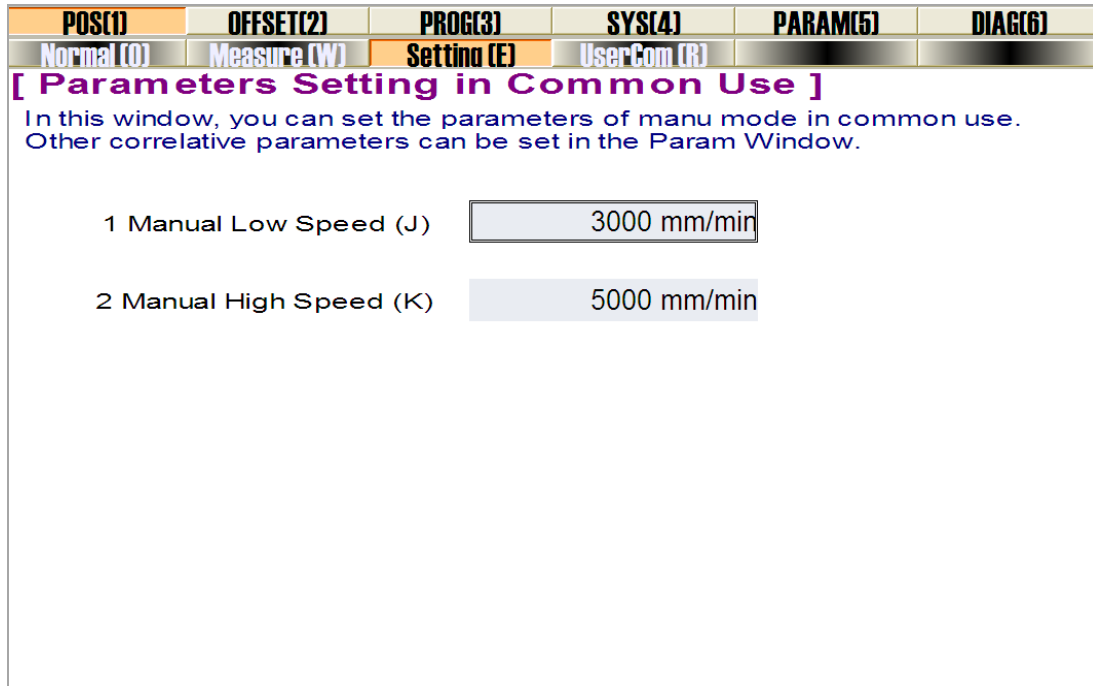

Fig. 4-17 Feedrate setting in manual mode
1. Turn to “Setting” window under “POS” function area in manual mode, as shown in Fig. 4-17. Press number button next to each parameter to open an input box, where you can set an appropriate value.